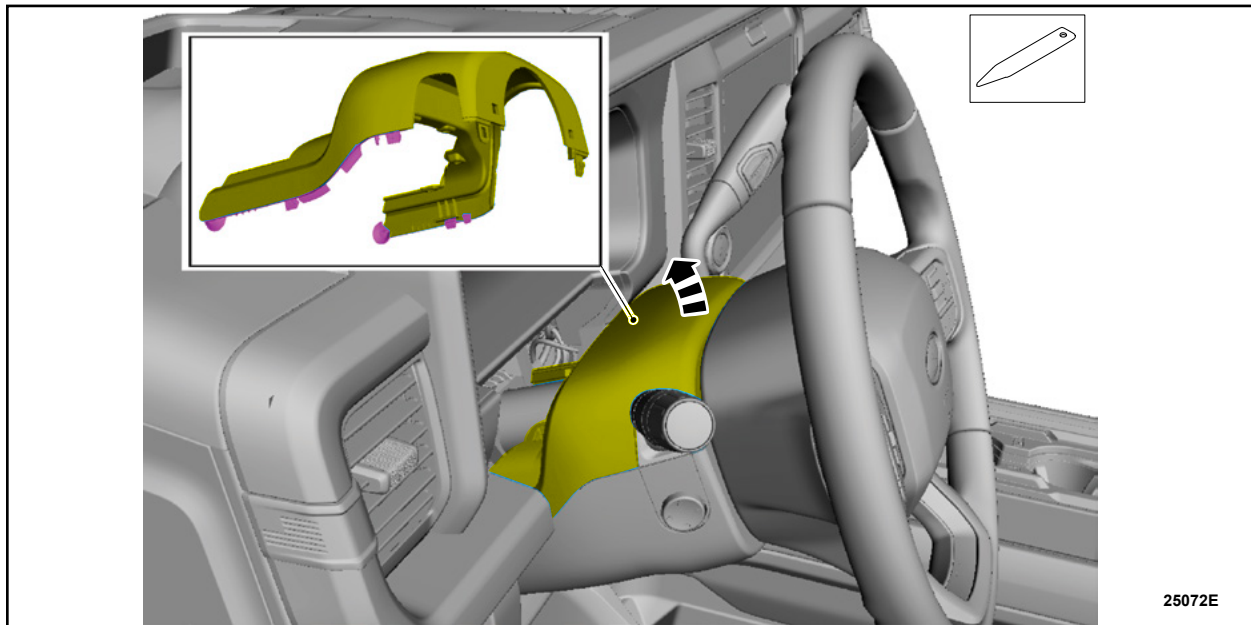

FIGURE 4
4. Release the outer tabs and position the upper steering column shroud upward. See Figure 4.